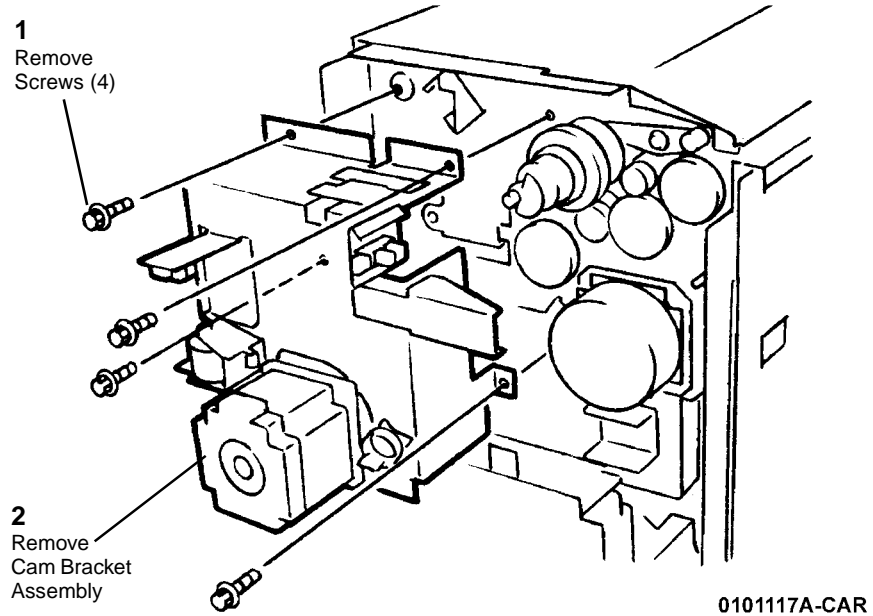

Figure 3 Removing the Cam Bracket Assembly
4. Remove the Cam Bracket Assembly (Figure 3).
- a. Remove the Screws (4).